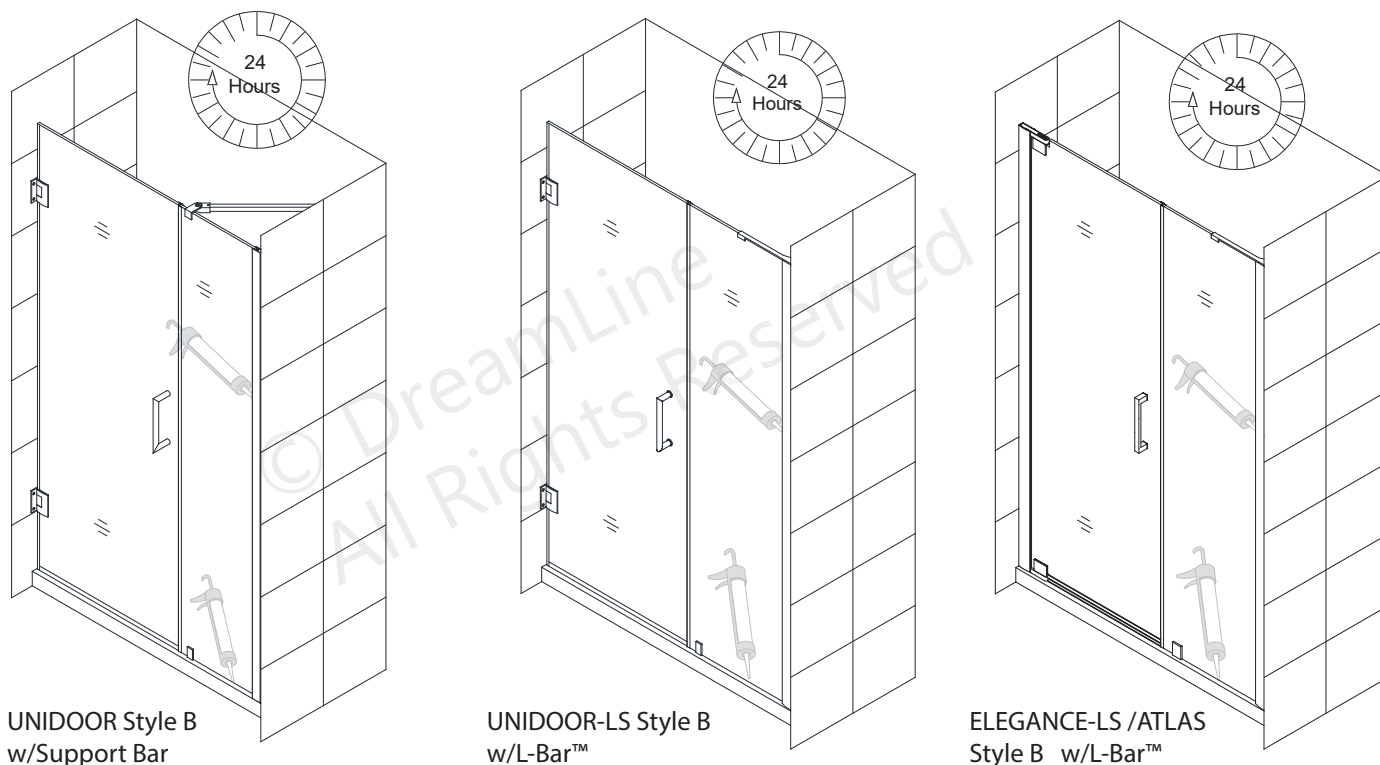

Fig 14
14. Apply a good quality mildew-resistant silicone along the connection of the **Wall Profile** to the wall and the **Panel Glass** to the threshold. (**Fig 14**)